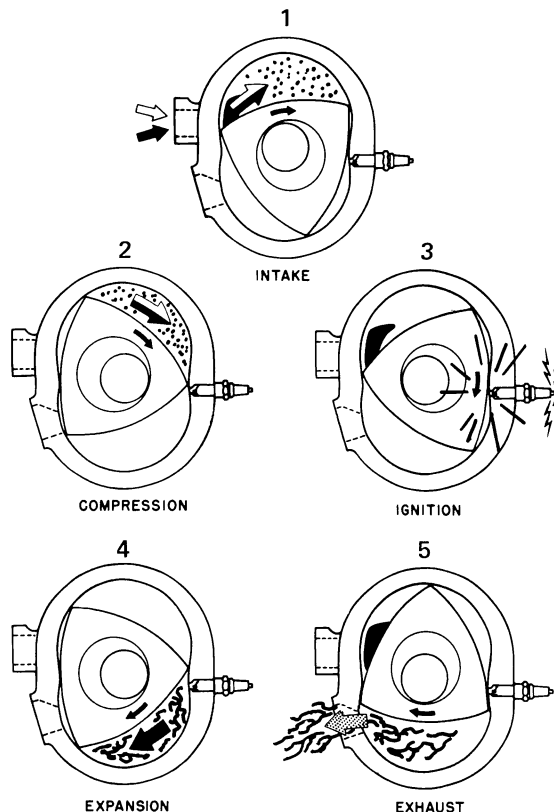

**Fig. 1-32** Two-cylinder crankshaft, showing rod journals 180° and 360° apart
**Twins and Multiple Cylinders.** Making an engine with two cylinders rather than one does more than just increase the power output. Each time the crankshaft turns there will be two power strokes instead of one. If the pistons fire alternately, one will fire every 180° of crankshaft revolution in a two-stroke engine. This will increase the smoothness of the power output (Fig. 1-32).